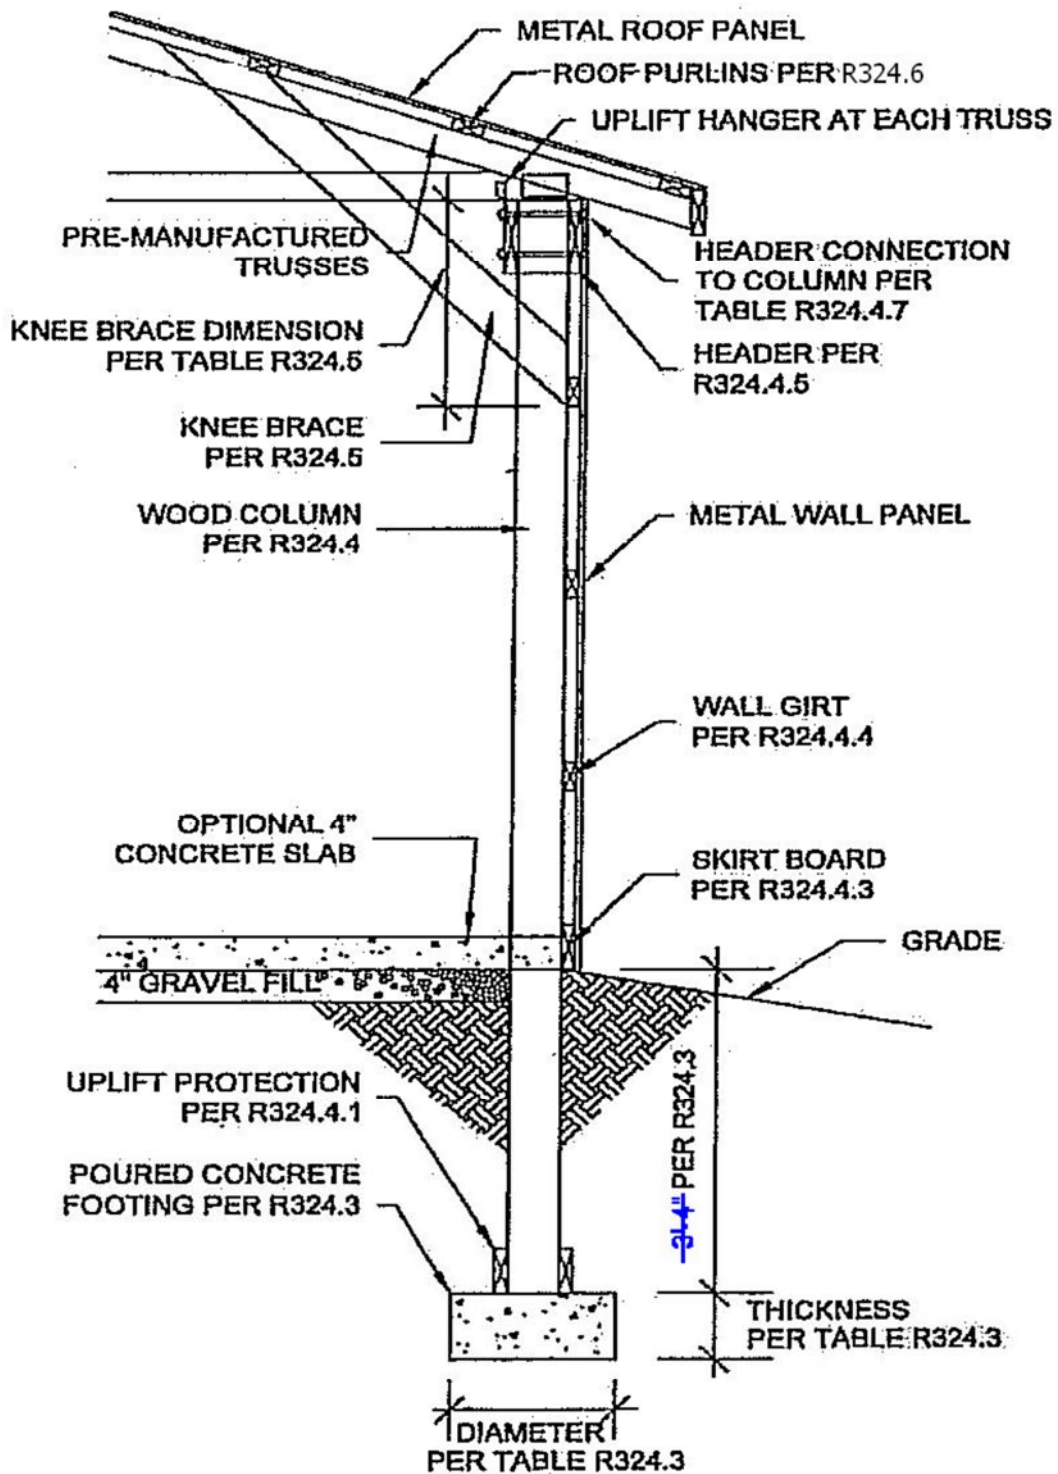

Figure R324.1
3. Metal room on purlins with bracing and metal wall panels on girts, with bracing as shown in Figure R324.1 or in lieu of bracing provide solid exterior structural sheathing